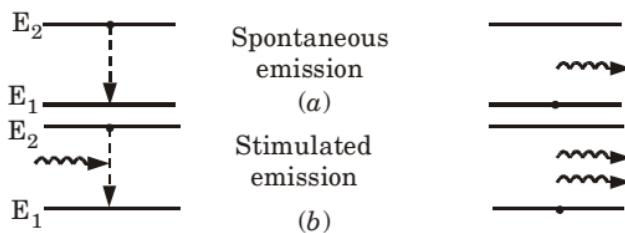

Fig. 13.
8. From Fig. 13 it is observed that in spontaneous emission atom from higher energy state returns to lower energy state in an entirely random manner whereas in stimulated emission, a photon having an energy equal to $(E_2 - E_1)$ interacts with the atom in the higher energy state causing it to return to the lower state with the creation of a second photon.